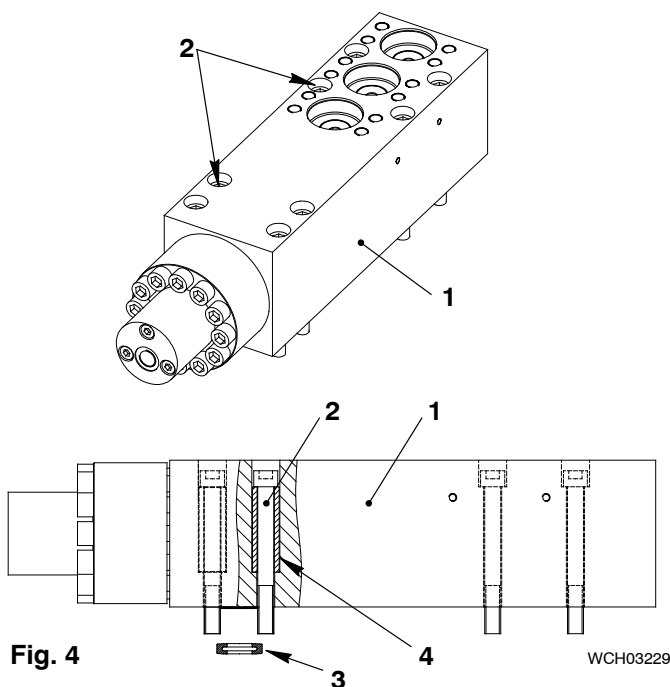

Fig. 4
- 3) Turn over the valve block (1, Fig. 4)
- 4) Clean the sealing surface in the valve block (1).
- 5) Put the new lip seal (3) into the valve block (1).
- 6) Turn over the valve block (1).
- 7) Clean the seating areas on the valve block (1) and on the fuel rail.
- 8) Apply Never Seez NSBT to the threads and surfaces that touch on the Allen screws (2).
- 9) Make sure that the distance sleeves (4) are in the positions shown.
- 10) Attach the valve block (1) to the fuel rail